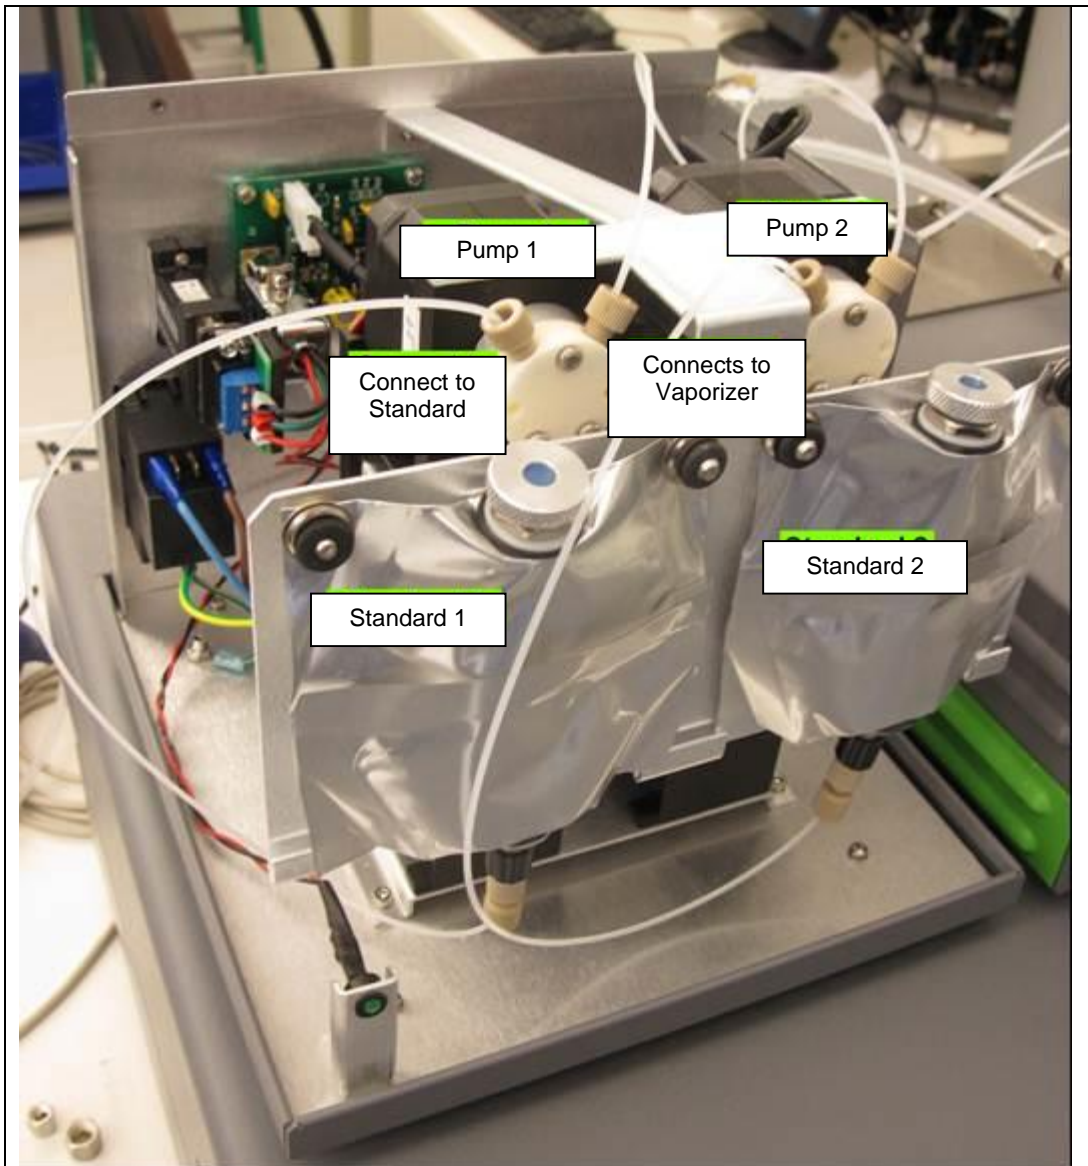

Figure 7 - Overall internal connections for the SDM.
- 18** Connect the remaining end of the tubing to the Standard Liquid Bags (**Figure 7**): Lay the liquid bag down on table top. Hold with black stopper pointing up, remove stopper, gently press until bead of water comes out of connector and connect to the appropriate pump with the beige ferrule end of the tubing. The pump on left is #1, right is #2. The left port of each pump connects to the bag.
- 19** Secure the Standard Liquid Bags (**Figure 7**): Hang the bags by sliding the corner holes on each bag over the posts on the SDM. Secure the bags by pressing the black